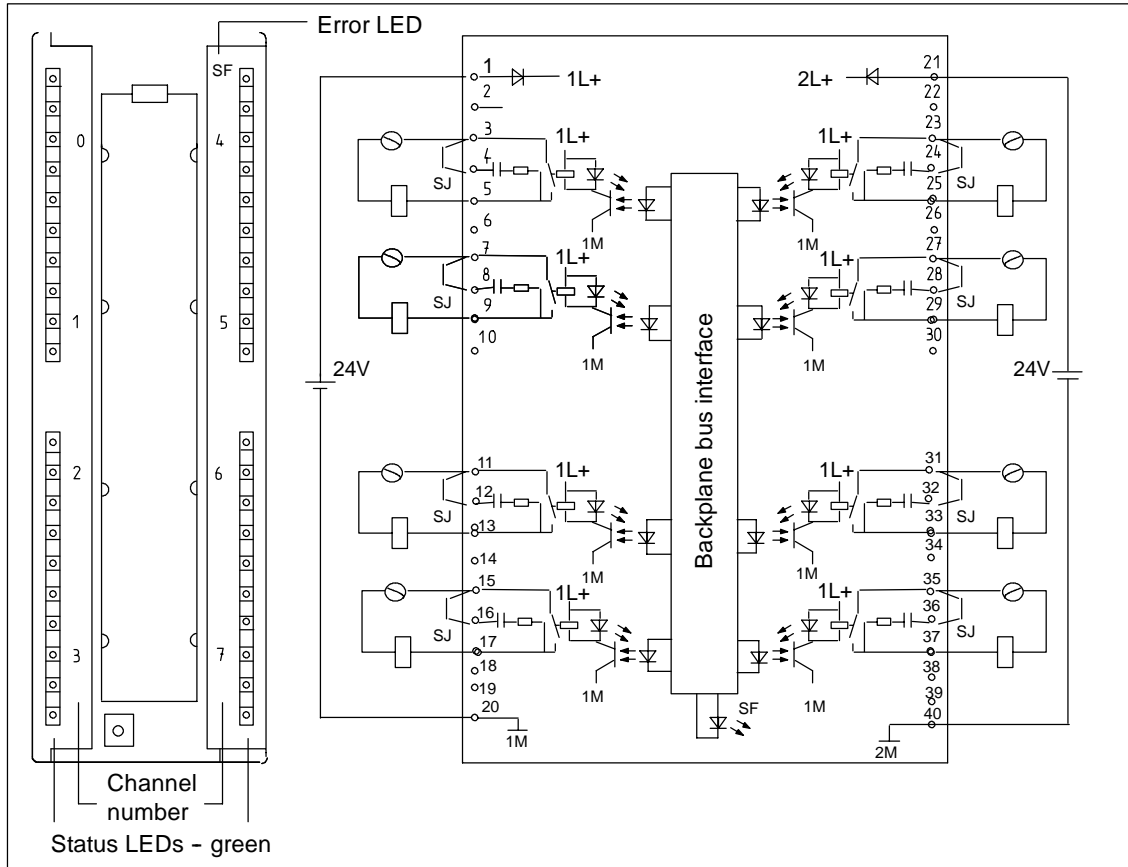

Figure 1 Module View and Block Diagram of the Relay Output Module SM 322; DO 8 x REL AC230V/5A
Figure 1 shows the terminal connection diagram and the block diagram for the SM322; DO 8 x REL AC230V/5A Output Module.
To protect the contacts against transient overvoltages insert jumpers (SJ) on the module between terminals 3 and 4, 7 and 8, 12 and 13, etc., see Figure 1.